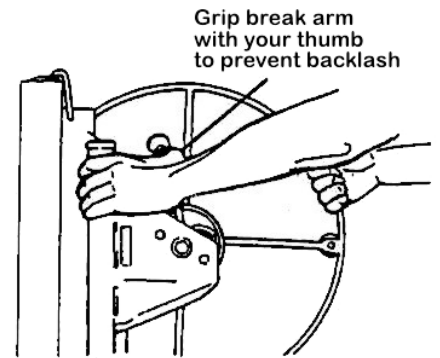

Figure 3
- b. Raise the brake arm all the way up. Grasp the winch post, and grip the brake arm firmly with your thumb. (Figure 3)